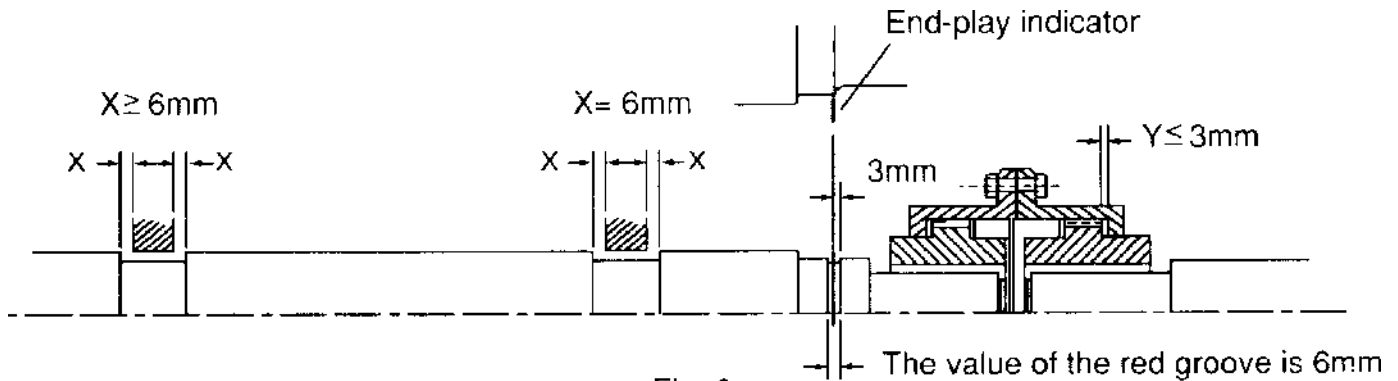

Fig. 6
- Unless otherwise specified, the designed end-play value  $X$  of the groove for TWMC motors in general is within 6mm (.236 in.) as illustrated in Fig. 6. In essence, the endplay indicator is adjusted to point at the center of the groove or the drive-end shaft shoulder; thus  $X$  equals to  $6 \pm 1$  mm or so, and the endplay value ( $Y$ ) of the couplings should equal or be smaller than 3mm (.118 in.).